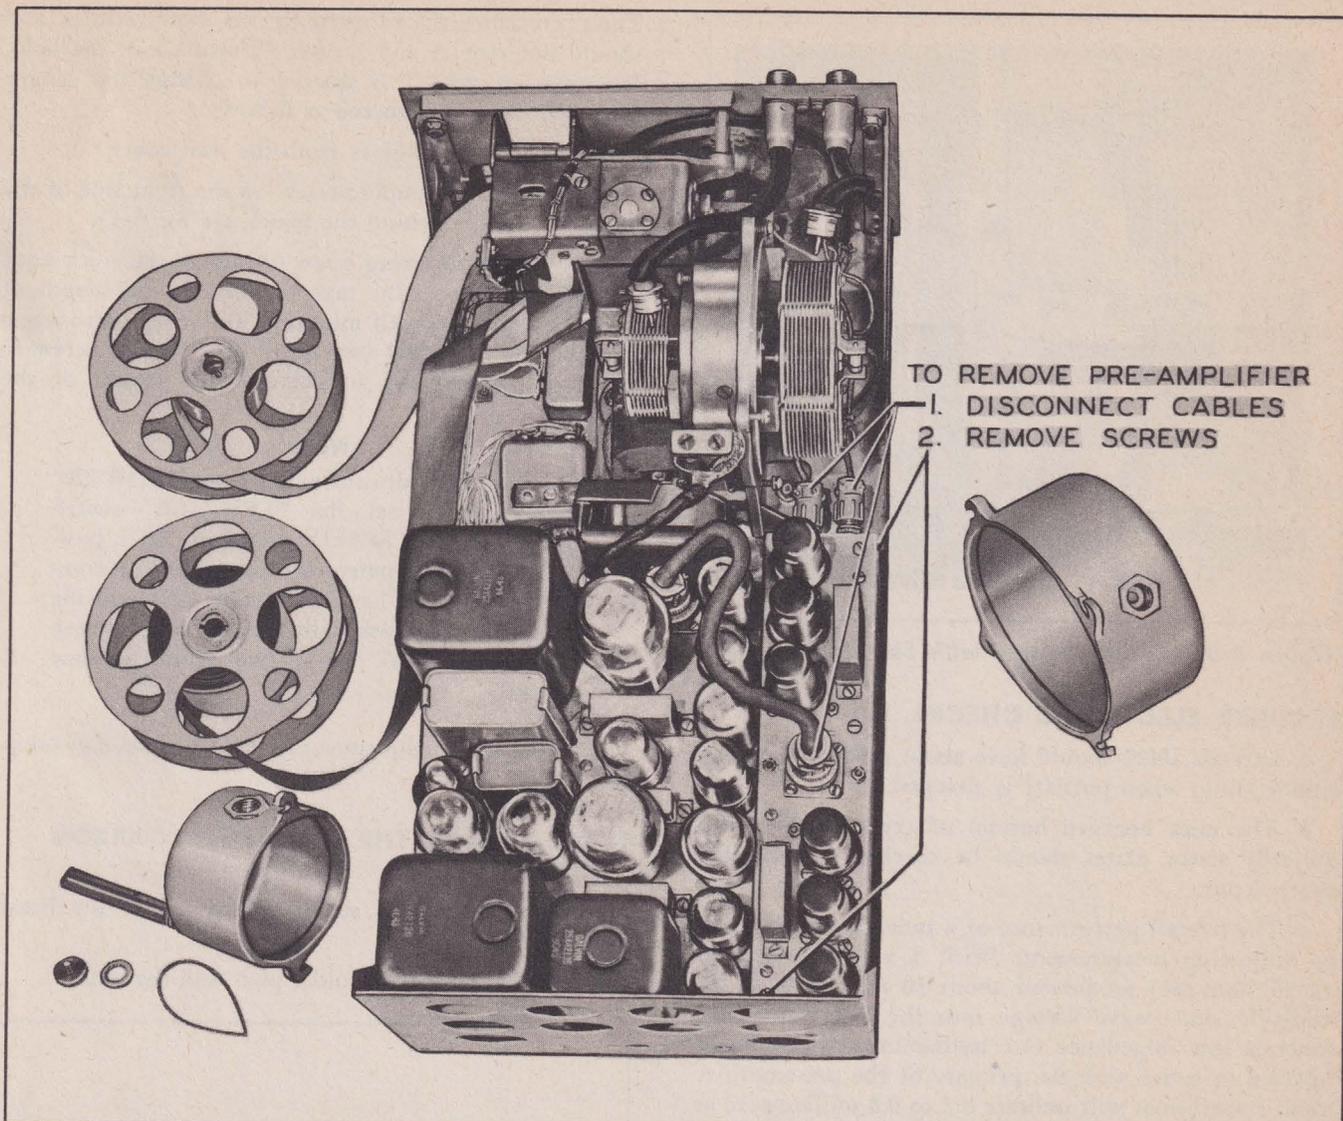

Figure 5-2. Radar Receiver R-34/APR-2—Top View with Dust Cover, Butterfly Tuner Shields and Tape Reels Removed
a. Remove tape-reel mounting screw and slide off both reels from the shaft. (See figure 5-2.)